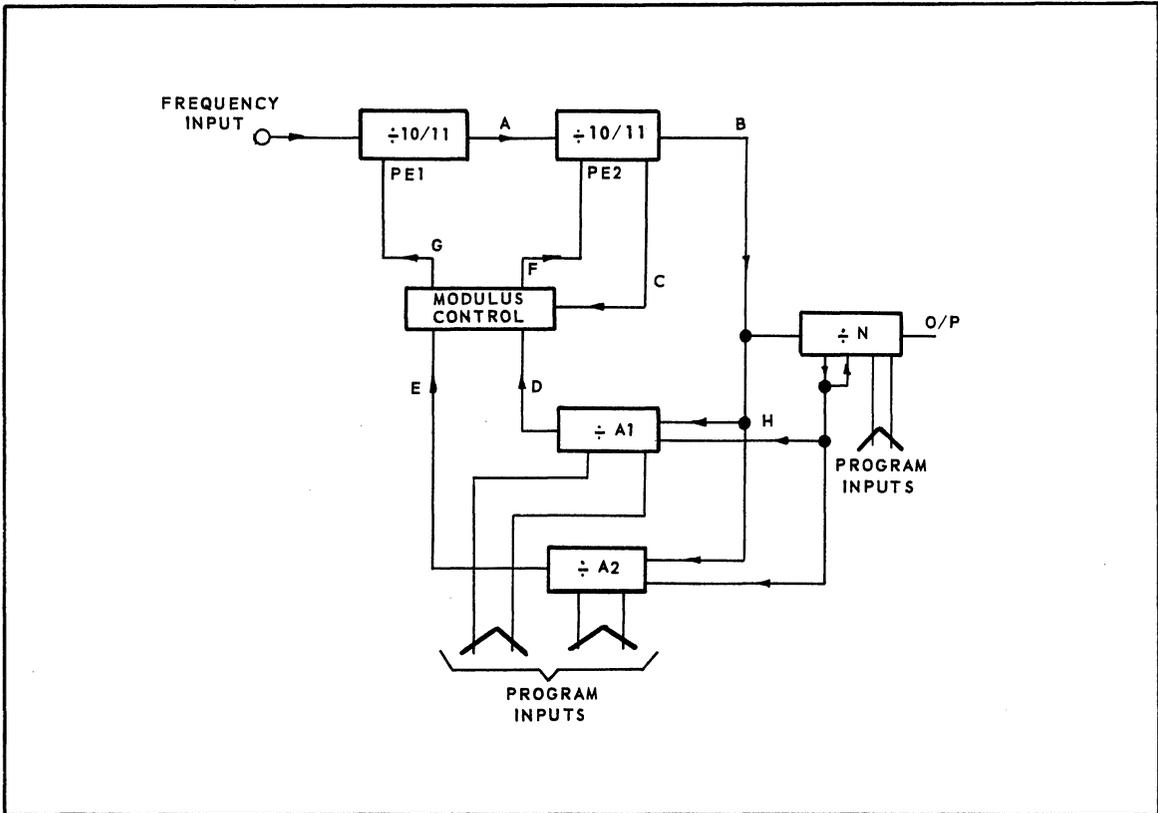
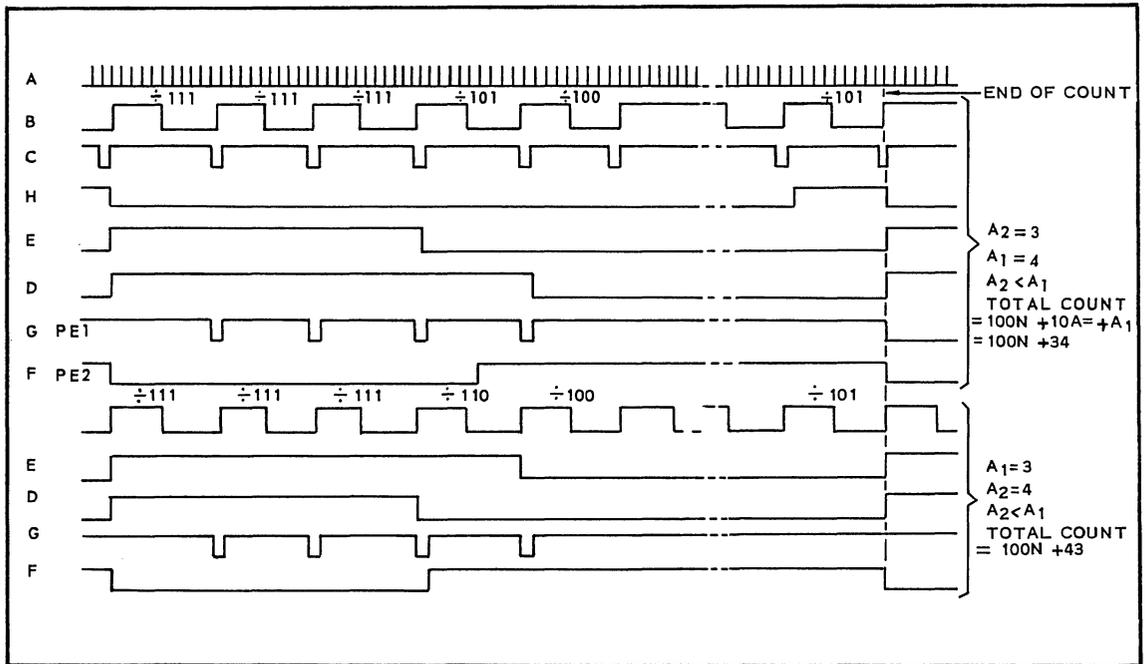

Fig. 8 A programmable divider using a  $\div 100/101/110/111$  prescaler.
Fig. 9 Waveforms for four-modulus prescaler.
This minimum count of 100 would not normally cause any problems in a system. However in a practical system, i.e. a VHF synthesiser covering the band 85MHz to 130MHz in 10kHz steps, a two modulus prescaler with moduli of 100 and 101 would be required to reduce the VCO output to a level at which CMOS decodes can be used. This gives a minimum count 10000 and consequently the minimum frequency that could be programmed would be 100MHz. Clearly a large part of the required frequency spectrum is not covered. To overcome this restriction it is possible using a basic 10/11 prescaler, to construct a prescaler with three or four moduli and this will be described in more detail below. In this particular VHF synthesiser we would use a four modulus prescaler with moduli of 100/010/110/111, and these would be controlled by two 'A' counters in parallel as shown in Fig. 8, with operational waveforms illustrated in Fig. 9. Counter 'A2' controls the addition of 10 to the basic modulus of 100 and consequently 'A2' should be programmable from 0-9. Counter 'A1' controls the addition of 1 to the basic modulus (100) and should also be programmable from 0-9. For programming, 'A1' and 'A2' may be visualised as setting the least significant digits respectively. By putting 'A1' and 'A2' in parallel we have reduced the minimum count of 'N' to the greater of 'A1' and 'A2', 10 in this case, consequently the overall minimum count is 1000 ( $= N_{\min} \times P$ ) and the minimum programmable frequency is now 10MHz. Various changes can be rung with this technique. For example, if a three modulus prescaler, 100/101/110, is used for this VHF synthesiser, two 'A' counters are still required but they now operate in series, 'A1' which controls the addition of 1 to the modulus, is now required to be programmable from 10-19, while A2, which controls the addition of 10 to the modulus is still only required to be programmed from 0-9. However the minimum count of 'N' is now 20 and consequently the overall minimum count of the counter is 2000, giving a minimum output frequency of 20MHz. In this case, then, we have traded minimum count for prescaler complexity. An example of this type is given below.
It can be seen from Fig. 9 that the input of the prescaler is buffered. If we examine the input circuitry of the prescaler we can see that it presents a non-linear impedance. Since this is driven by a Voltage Controlled Oscillator which is also intended to provide a spectrally pure signal for use elsewhere, (i.e. in a communications receiver) it is important to isolate the VCO from the divider input impedance so that the VCO output is not degraded. The buffer is intended to provide this function. A target for the amount of isolation between the divider input port and the VCO output port is typically 60dB although many systems will tolerate lower values. There are many commercially available microwave integrated circuits (MICs) available (i.e. Avantek GPD401) which give upwards of 20dB isolation and similar amounts of 'tame' gain, if one of these is coupled with an attenuator, adequate amounts of isolation can be provided economically.